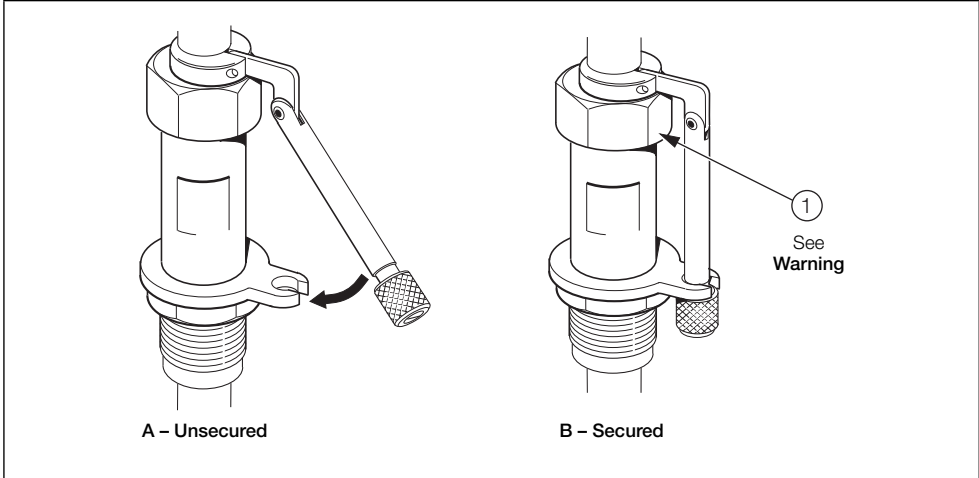

Fig. 3.6 Safety Mechanism
Warning. The flow sensor is provided with a safety mechanism (see Fig. 3.6 A) that must be attached to its securing collar as shown in Fig. 3.6 B. This prevents rapid outward movement by the flow sensor if nut ① is released.